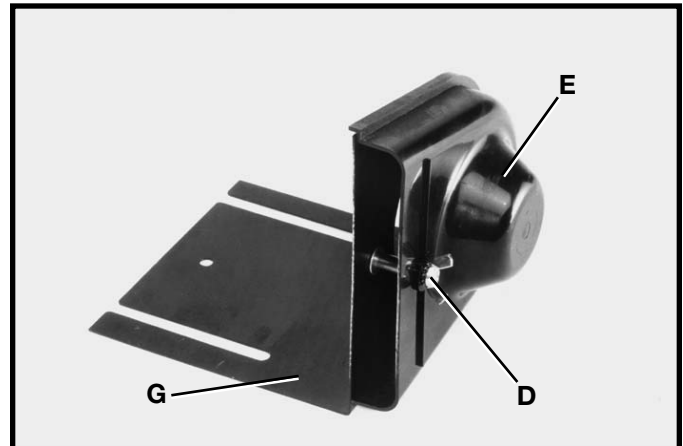

Fig. 20
3. Remove wing nut and external tooth lockwasher (D) Fig. 20, and outer cover (E) from belt and pulley guard (G).